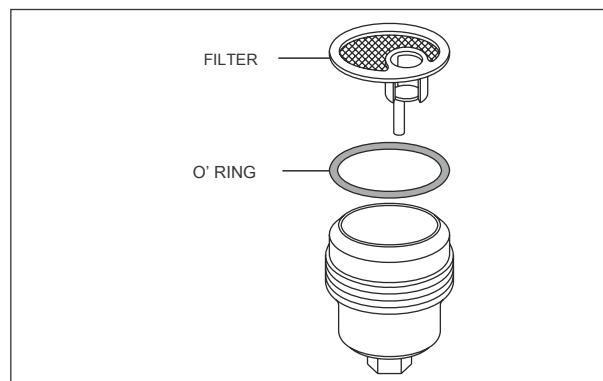

Fig. 2.66
- ! Take out the 'O' ring and fuel filter. (Fig. 2.66)